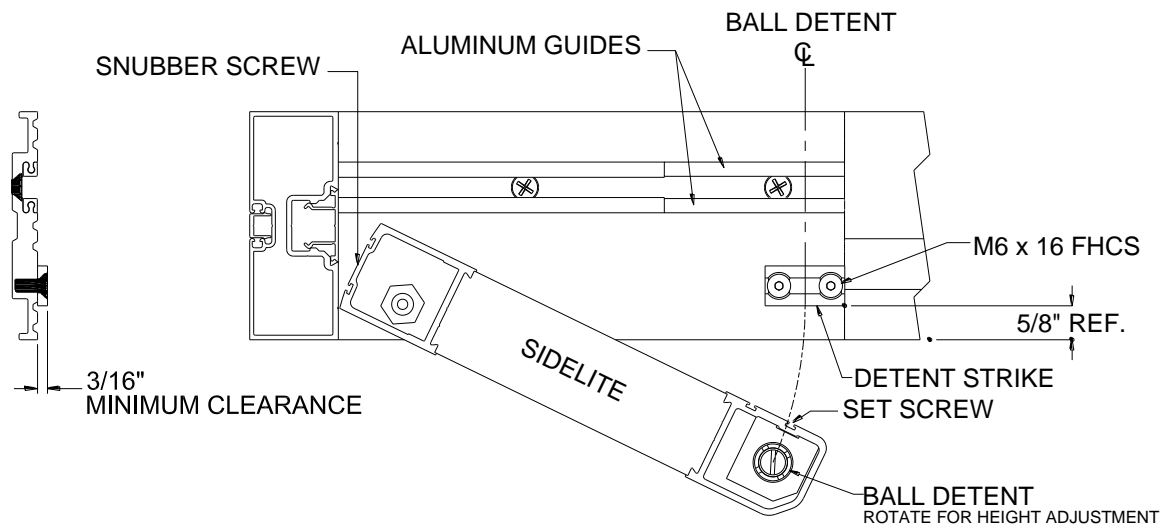

FIG 1.5 FBO SIDELITE BALL DETENT & SNUBBER SCREW
12. **Install Sidelite Strike – FBO:** Adjust sidelite Ball Detent so that the ball contacts the threshold and marks its position. Place the strike on the threshold centered over the ball path. Mark the fastener holes on the threshold then drill and tap for M6 screws. Secure the strike on the threshold and adjust ball catch clearance. ref. FIG 1.5
13. **Install Sidelite Snubber - FBO:** Break open the sidelite and install the M6 X 20 SHCS jamb snubber screw located at the midpoint of the pivot stile. ref. FIG 1.5
19. **Interlock Installation & Adjustment - FBO:** Install interlocks on active leaf stile(s) as shown in FIG 1.5